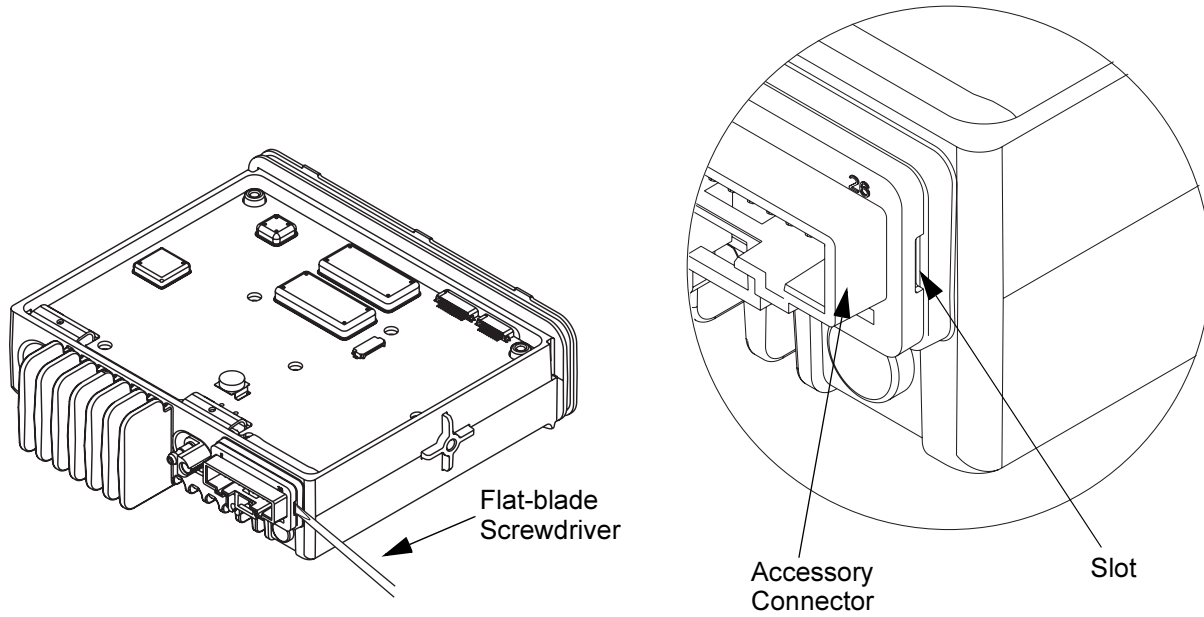

Figure 5-8. Accessory Connector Removal
3. Remove the accessory connector from the radio assembly by inserting a flat-blade screwdriver into the slot on the side of the connector as shown in Figure 5-8.